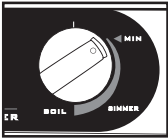

Fig. 6
- 1. Turn the Temperature Control knob to the MIN position. (Fig. 6) Press the switch to OFF and unplug the pasta cooker.